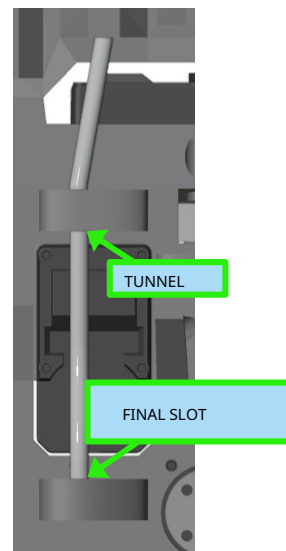

Figure 5.33:
2. Insert the other end into the passage tunnel and then into the final slot figure 5.33).